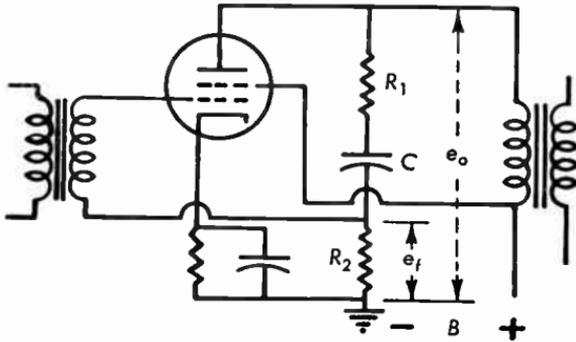

Fig. 8.21 Transformer-coupled amplifier with negative feedback.
8.21 In the circuit of Figure 8.21,  $R_1 = 50,000$  ohms,  $R_2 = 2500$  ohms. Calculate the feedback factor  $\beta$ .
8.24 In the circuit of Figure 8.21, problem 8.21, the input signal is 10 volts, the output is 100 volts. What value of  $R_2$  will kill the signal?